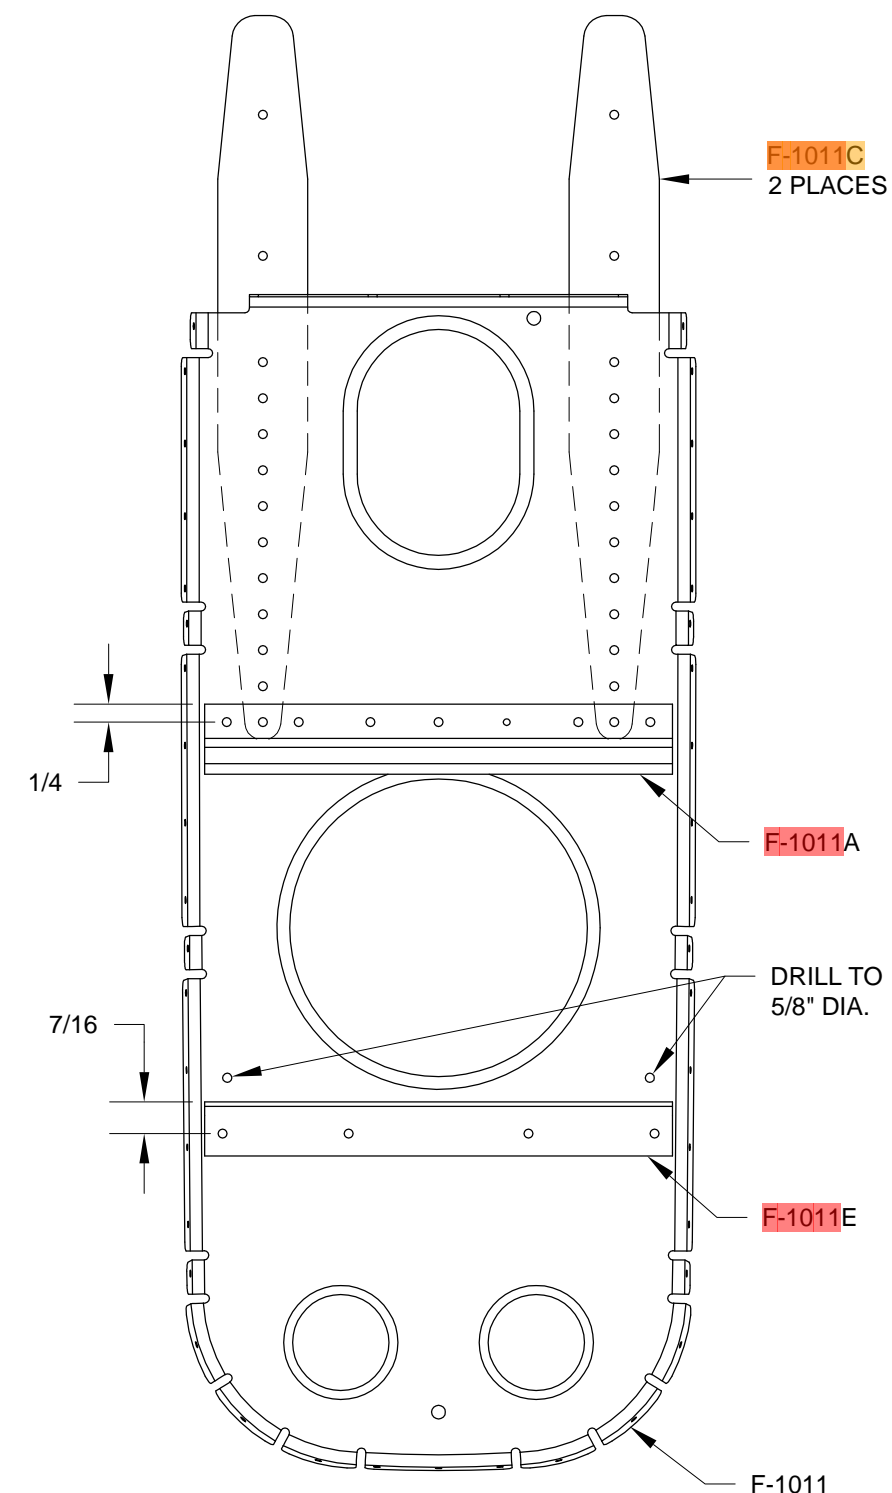

FIGURE 3: POSITIONING F-1011 BULKHEAD PARTS
Step 4: Drill the two 1/8" holes indicated in Figure 3 to 5/8" using a Unibit step drill.
Step 5: Repeat Step 3 for locating and drilling the four holes used to attach the F-1011E Rudder Cable Angle. The top of the rudder cable angle is located 7/16" above the holes in the F-1011 Bulkhead as shown in Figure 3.